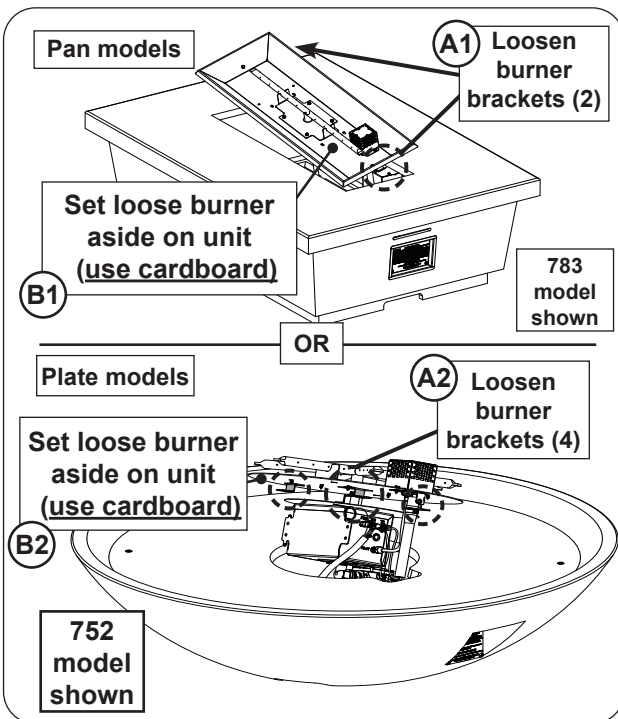

Fig. 27-2 Gain access to interior of unit
3. Use a $\frac{5}{16}$ " nut driver to loosen the 2-8 screws found on the burner assembly (see Fig. 27-2, A).
4. Carefully lift out the burner just enough to set it off to the side (see Fig. 27-2, B).